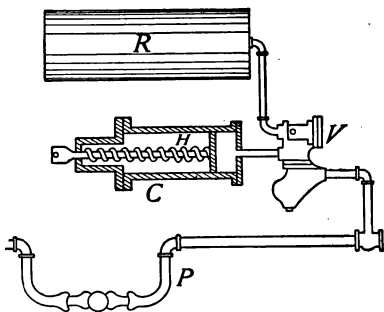

FIG. 50.—Cross-section of a Westinghouse air brake.
68. The Air Brake.—Compressed air is used to do work in many machines, such as pneumatic drills, hammers, and air brakes. The Westinghouse air brake (Fig. 50) uses air at a pressure of about 70 lbs. to the square inch. The essential parts as shown are a reservoir *R*, the brake cylinder *C* and a triple valve *V*, placed under each car with an air pipe *P*, leading to the engine. This is connected to *R* by the triple valve *V*. When the pressure in *P* is reduced by the engineer or by accident, the triple valve operates so as to admit air from *R* into the cylinder *C* pushing the piston *H* to the left. *H* is connected to the brakes by levers which press the brake shoes strongly against the wheels. When the air pressure in *P* is restored the triple valve acts so as to permit the air in *C* to escape while *R* is filled again from *P*. The hissing sound heard when a train stops is caused by air escaping from cylinder *C*. The